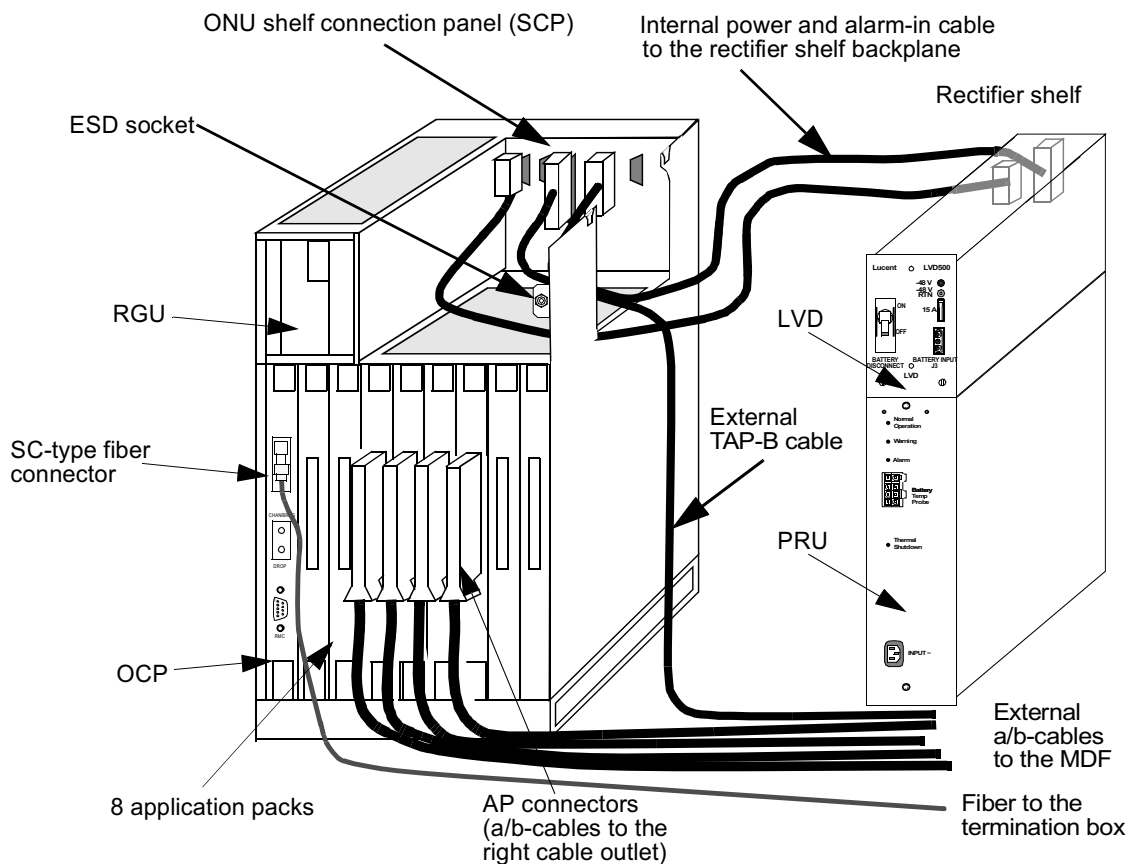

Figure 5-5 ONU shelf cabling arrangement for external cables
- Step 3 Lead the cable in the gap upwards through the right opening of the ONU shelf to the 37-pin, male connector C1. For cable routing of the ONU shelf see Figure 5-5.
- Step 2 Orient the mating cable connector so that the T/R cable exits upwards towards the application pack. For cable routing of the ONU shelf see Figure 5-5 on page 5-12.